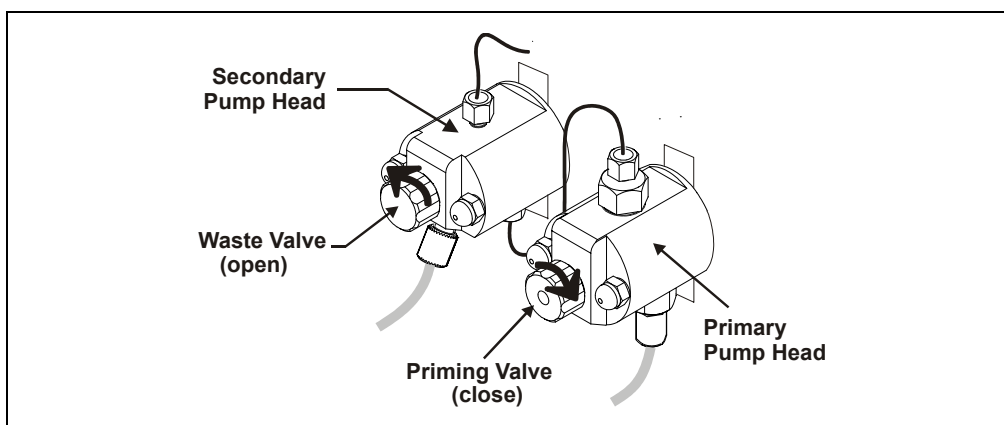

Figure 37. Priming the Pump
1. Check that the priming valve on the primary pump head is closed (see Figure 37).
2. Open the waste valve on the secondary pump head by turning the knob one-quarter to one-half turn counterclockwise (see Figure 37). Opening the valve directs the eluent flow path to waste and eliminates backpressure.